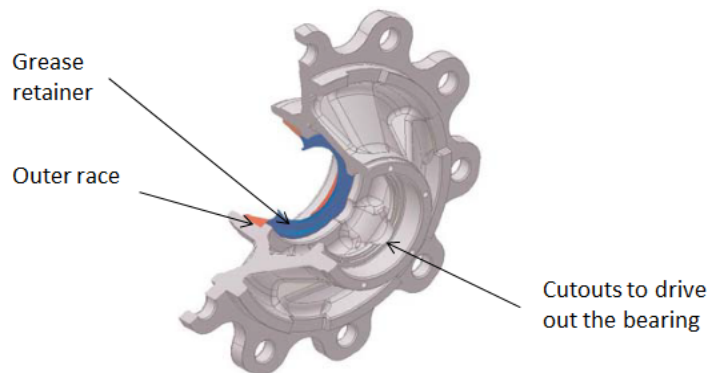

Figure 66 — Outer Race
2. Remove the outer races of the bearings, which are inside the hub (see Figure 66).